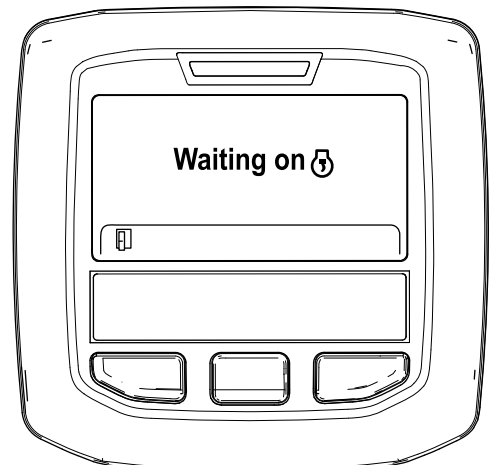

Figure 53
- B. The "Waiting on [engine icon]" message displays (Figure 53).